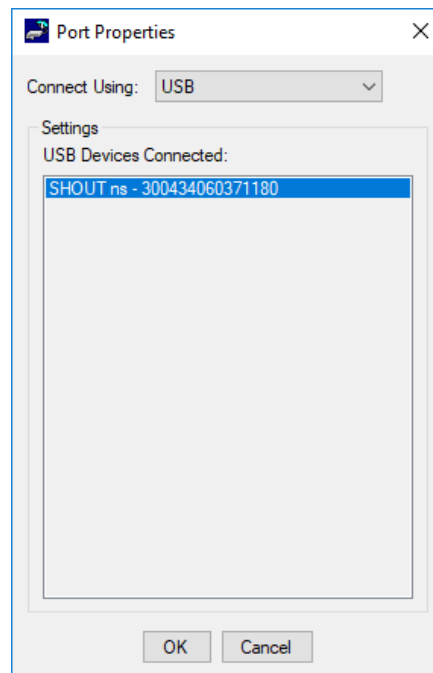

Figure 5: Port Properties Window Option
5. Use the **Options > Properties** menu to configure the communications port settings (see **Figure 5**). The default should already be set to USB for the SHOUT ns. Select **Options > Properties > Set Port Properties**. This option sets the computer's communication parameters to communicate with a connected and powered SHOUT ns. If the USB port is not already selected, go to the **Connect Using** dropdown list and select USB. Select the desired SHOUT ns from the *USB Devices Connected* box. If multiple SHOUT ns devices are attached, they can be differentiated by the IMEI number of the internal Iridium modem.
5. Use the **Options > Properties** menu to configure the communications port settings (see **Figure 5**). The default should be set to USB for the SHOUT ns. Select **Options > Properties > Set Port Properties**. This option sets the computer's communication parameters to communicate with a connected and powered SHOUT ns. If the Bluetooth port is not already selected, go to the **Connect Using** dropdown list and select **BT**.